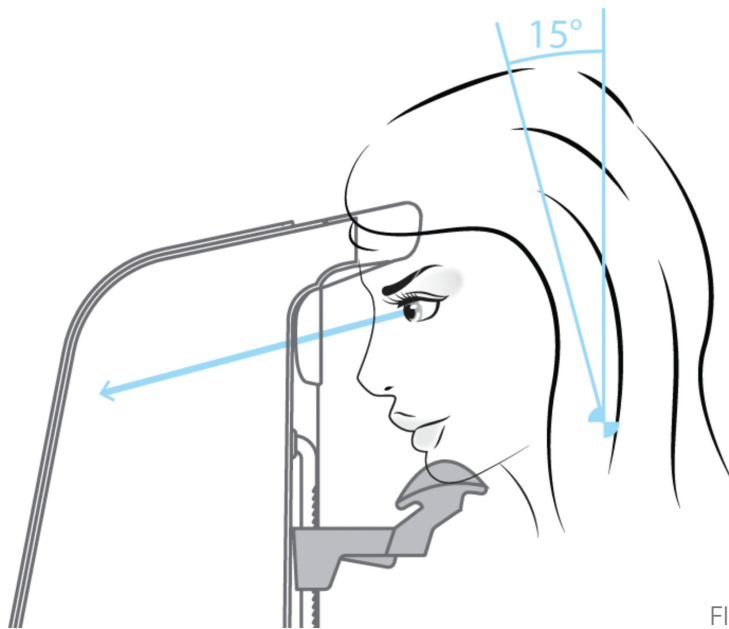

FIGURE 9
3. Adjust the chin rest elevation to position the patient's eyes vertically in the centre of the light aperture (Figure 9).
4. Adjust the patient's chin position on the chin rest as shown below (Figure 9).